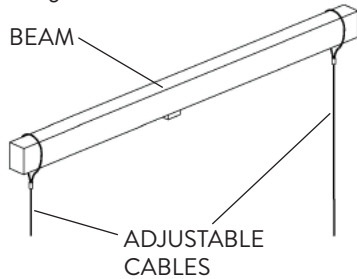

FIG. 4
- 1 The Cable Mount Kit includes 112 inch Aircraft Cable pair. Wrap the two pieces of cable around the Ceiling Beam and extend down to the required mounting height (Fig. 4).